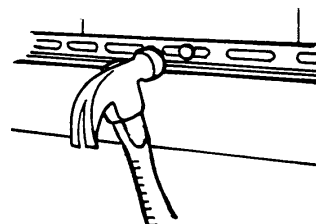

Figure 76
- Lock on the new panel and nail it up (Figure 76).